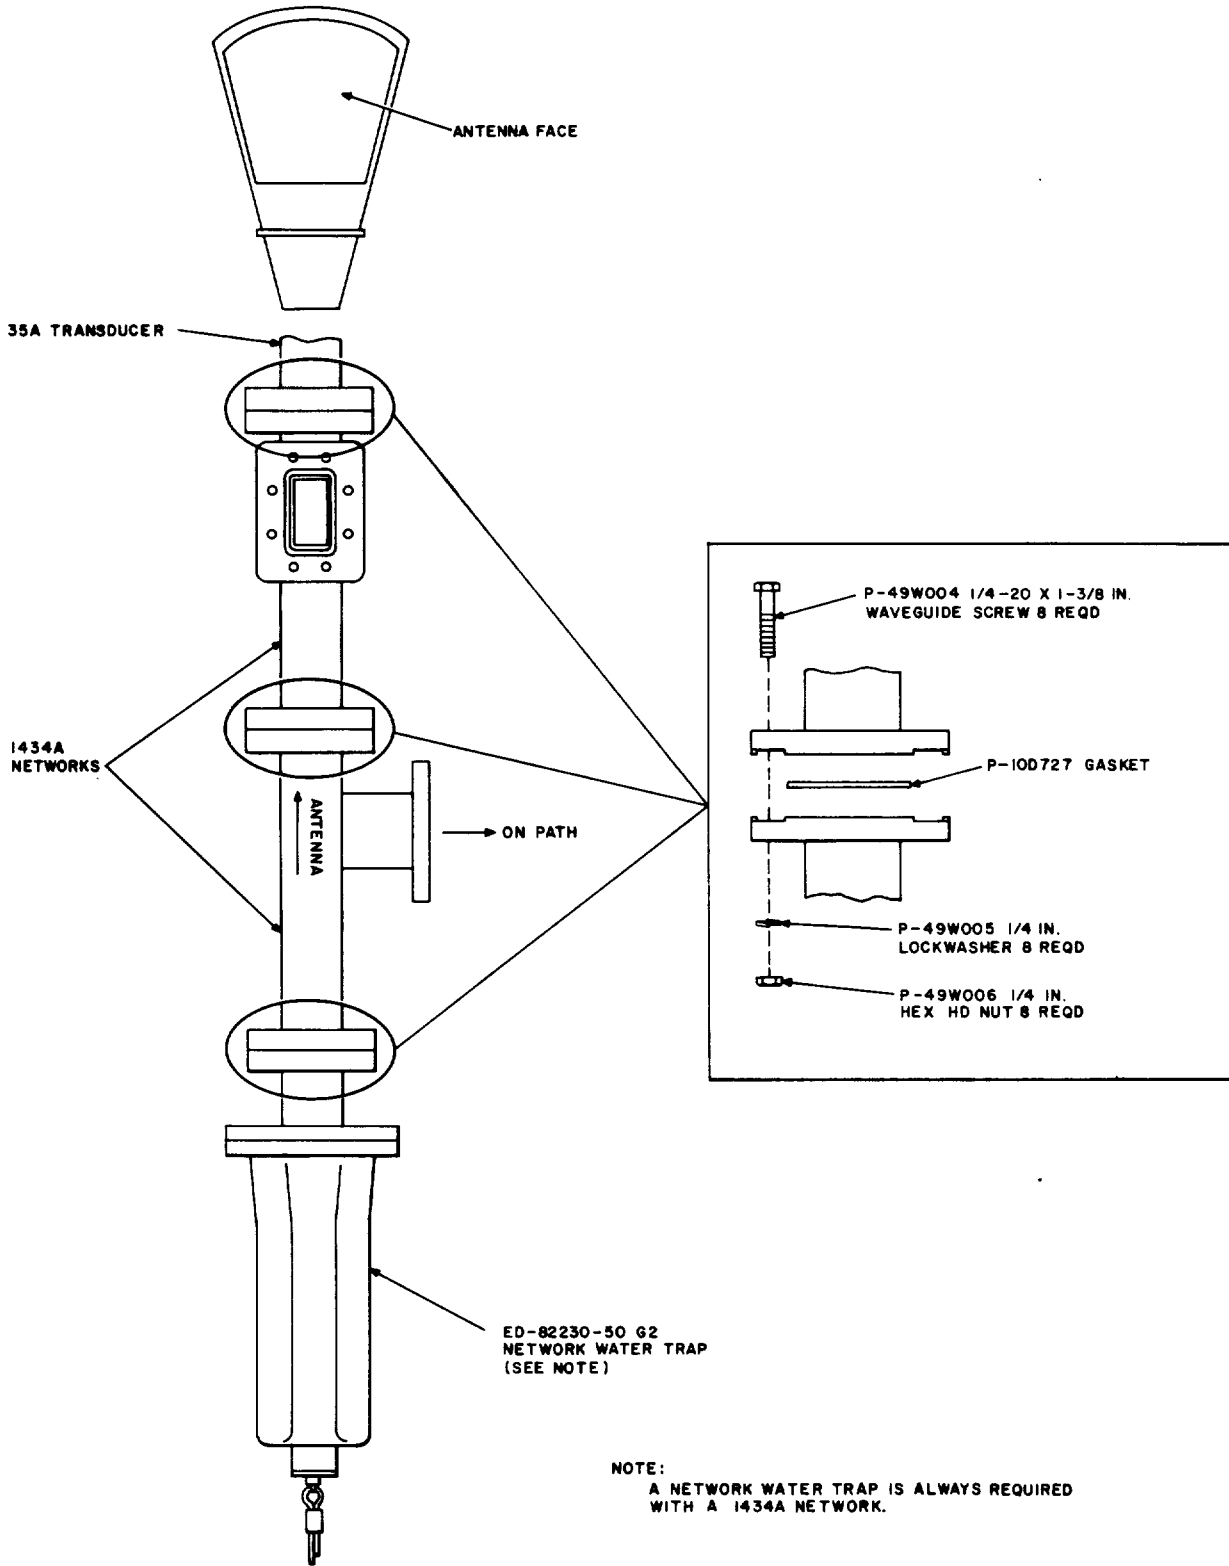

Fig. 16—Installation of 1434A Network
2.38 When there is no requirement for an 11-GHz radio system, the 1434A network may be used in place of the 1406A or 1428A networks. An ED-82230-50G2 water trap must be used with the 1434A network. The 1434A network is installed as shown in Fig. 16, using the bolts, gaskets, and lockwashers provided with the network, transducer, and water trap. The upper 1434A network is positioned so that the side tap is perpendicular to the antenna face. This will result in horizontal polarization for the upper network. The lower 1434A network is positioned so that the side tap is rotated 90 degrees from the side tap of the upper 1434A network.